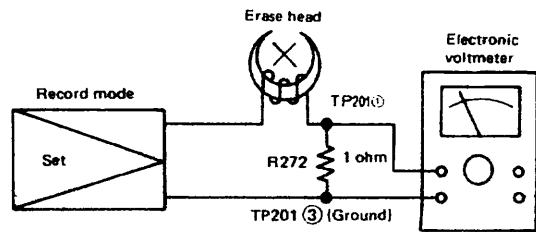

Figure 22-2
- Make connection of instruments as shown in Fig. 22-2, and check if the erase current is as shown in Table 22-2.